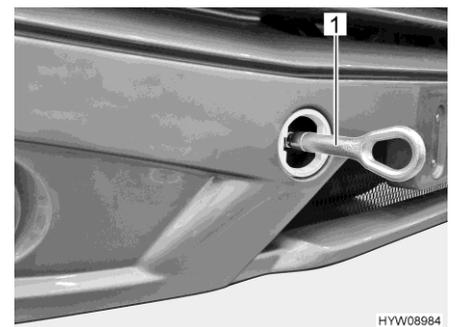

Fig. 26 Towing eye (mounted)
- Mount the towing eye (Fig. 26,1) in accordance with the instructions in the operating manual of the base vehicle.